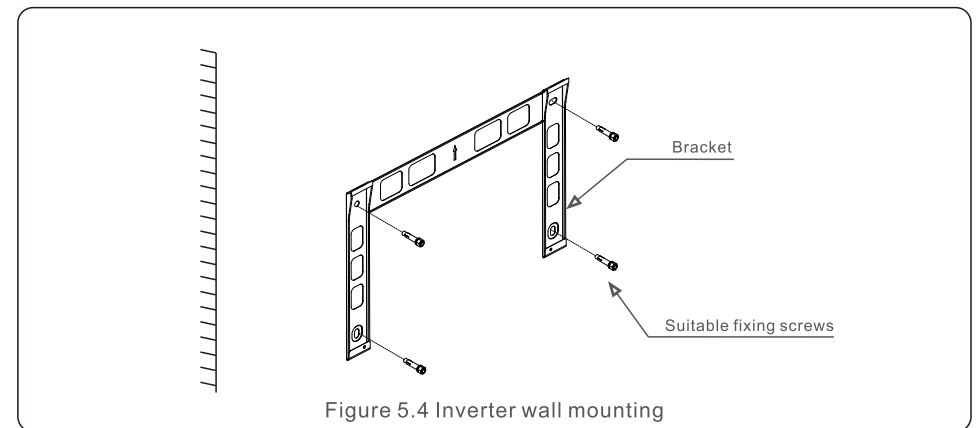
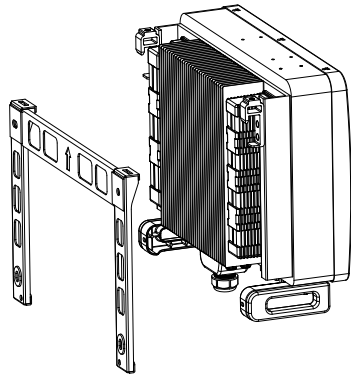

Figure 5.4 Inverter wall mounting
Figure 5.5 Install the inverter
Refer to figure 5.4 and figure 5.5. Inverter shall be mounted vertically. The steps to mount the inverter are listed below.
1. Refer to Figure 5.4, the holes for expansion bolt based on the hole diameter of bracket (M10*70), using the percussion drilling with the 10mm drill need to stay vertically on the wall. And the drill hole must be vertically on the wall. And all drill holes' depth is 60mm.
2. Make sure the bracket is horizontal. And the mounting holes (in Figure 5.4) are marked correctly. Drill the holes into wall at your marks.